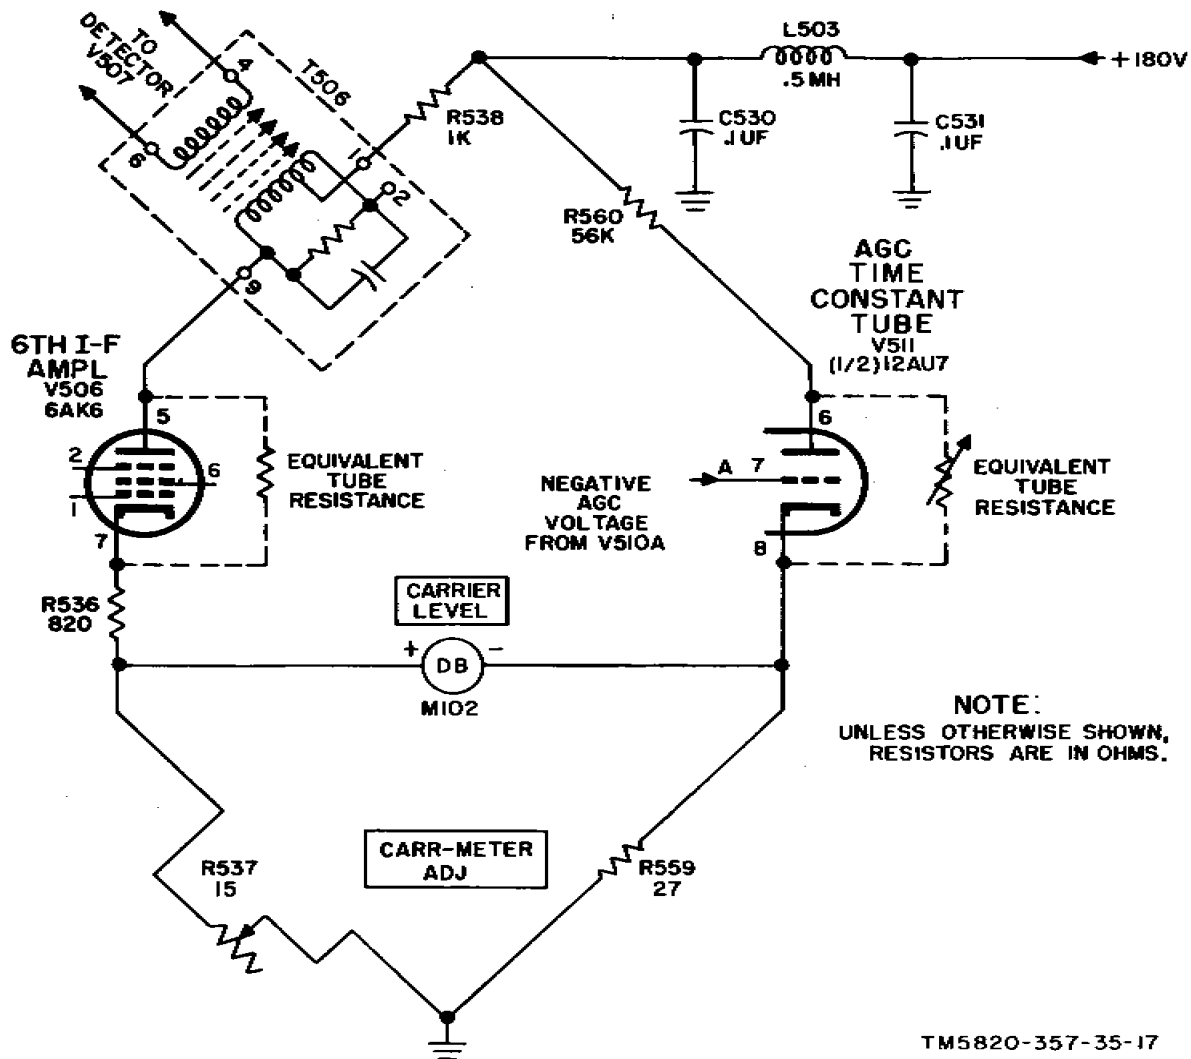

Figure 10. CARRIER LEVEL meter circuit, simplified schematic diagram.
22. Agc and CARRIER LEVEL Meter Circuits V509, V510, and V511 (fig. 10 and 62)
e. *CARRIER LEVEL Meter Circuit (fig. 10 and 62).* CARRIER LEVEL meter M102 indicates the relative strength of a received rf signal. Sixth if. amplifier V504, age time constant tube V511A, and their circuit components form a bridge circuit. Meter M102 indicates the bridge unbalance.
- (1) The resistors drawn in parallel with the tubes in figure 10 show that V506 appears as a constant resistance in the bridge circuit